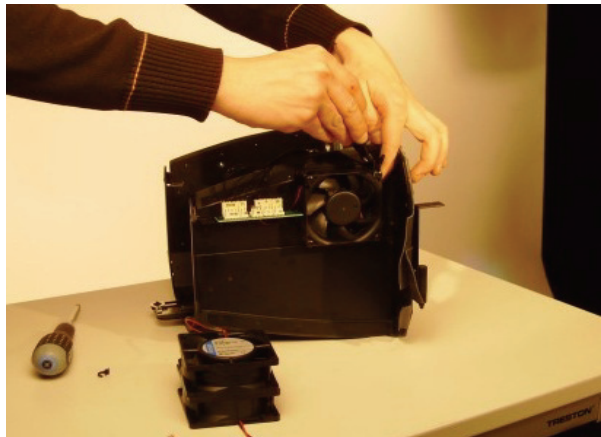

Figure 65
71. See Figure 65. Place the zoom/focus module on a workbench. Cut the cable ties holding the effect cooling fan wiring. Disconnect the fans, making a note of which connectors they were plugged into, then remove the 4 mounting screws from each fan and remove the fans from the zoom/focus module. The fans and mounting screws are no longer required, as new items are supplied in the Upgrade Kit.